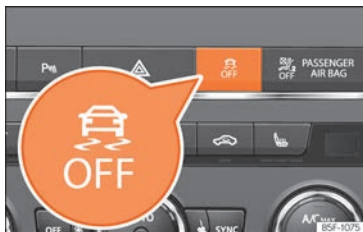

Fig. 257 Centre console: Button for switching on/off the ESC and ASR
- Press the  button »»» **Fig. 257** for approximately 1 second to switch to ESC Sport mode.
- Press the button  »»» **Fig. 257** for approximately 3 seconds to switch off the Electronic Stability programme (ESC), including the ASR function. The  control lamp lights up and the **ESC OFF** message is displayed permanently on the instrument panel display.
- The ASR and ESC function are reconnected by pressing the button  »»» **Fig. 257.**